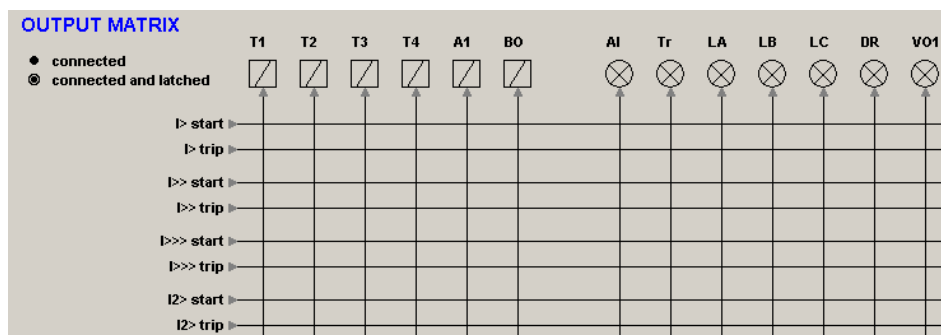

Figure 8.4-1 Output matrix.
There are two LED indicators named "Alarm" and "Trip" on the front panel. Furthermore there are six general purpose LED indicators – "A", "B", "C", "D", "E" and "F" – available for customer-specific indications. In addition, the triggering of the disturbance recorder (DR) and virtual outputs are configurable in the output matrix. See an example in Figure 8.4-1.